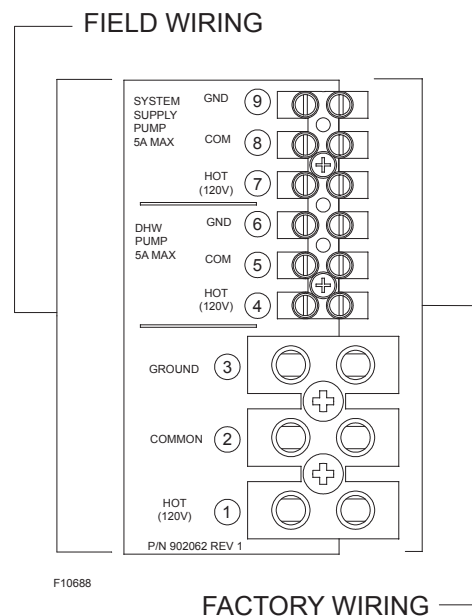
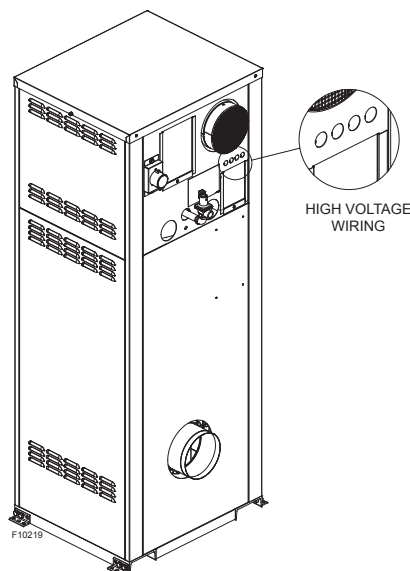
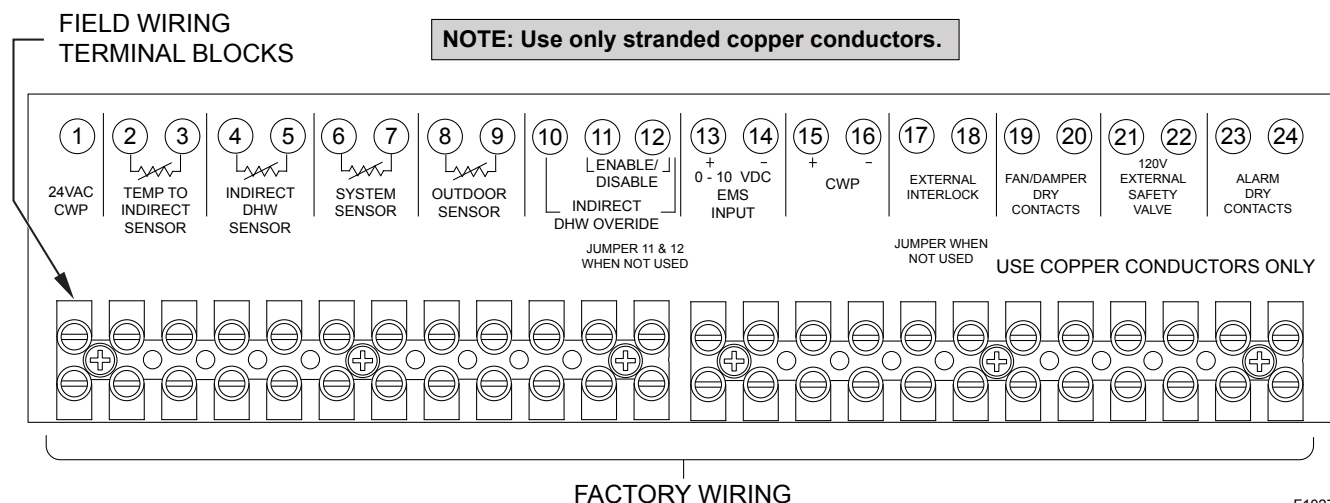

Figure 19. Wiring Electrical Connections
Figure 21. Wiring Locator
Figure 23. Low Voltage Field Wiring
All high voltage wiring connections to the MVB heater are made inside the rear wiring box as shown in **Figure 19**. Power for an indirect DHW pump not exceeding 5 amps should be taken from terminals 4 (Hot), 5 (Com), and 6 (Gnd). Power for a system pump not exceeding 5 amps should be taken from terminals 7 (Hot), 8 (Com), and 9 (Gnd). Power for boiler pumps must be routed through the pump contractor; 30A supply is required. Power to the MVB heater should be connected to Terminals 1, 2, and 3 as noted in **Figure 19**. All low voltage wiring, including sensors, interlocks, enable/disable, and various options are wired into terminals 1–24 on the front wiring panel as noted in **Figure 23**.
See Figure 19 to Figure 21.
Connect the Enable/Disable terminals to the field wiring terminal. See **Figure 23**. Alternately, any dry contact closure (including a remote thermostat) across these terminals will enable the MVB unit to run. Caution should be used to ensure neither of the terminals becomes connected to ground.
4. Connect an Energy Management system or other auxiliary control signal to the terminals marked 0-10V (+ /-) on the PIM. See **Figure 23**. Caution should be used to ensure that the +0-10V connection does not create a short to ground.
2. Connect the system supply sensor to terminals 6 and 7 on the field wiring strip located on the Master PIM. See **Figure 23**.
3. Connect the Outdoor sensor (if used) to terminals 8 and 9 on the field wiring strip located on the Master boiler. See **Figure 23**.
4. Connect the Enable/Disable wiring to terminals 11 and 12 on the field wiring strip located on the Master boiler. See **Figure 23**. This connection must be provided through dry contacts closure.
An alarm annunciator or light may be connected to the alarm contacts on the boiler PIM. The Alarm Contacts are 3A rated dry contacts on a normally-open relay that close during fault or lockout conditions, and the maximum voltage across the contacts is 30 VAC or 30 VDC. See **Figure 23**.